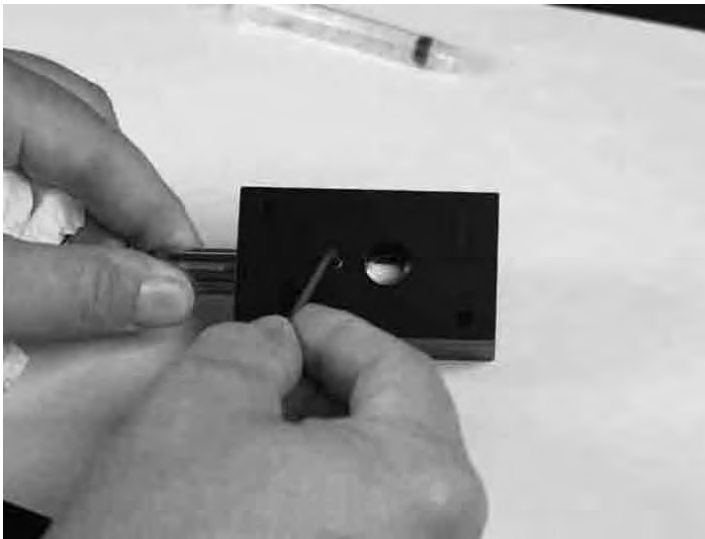

Fig. 13.16. Removing the replacement UV lamp set screw.
5. Using the 5/64" Allen wrench provided with the new lamp, remove the set screw holding the UV lamp in place (Figure 13.16).